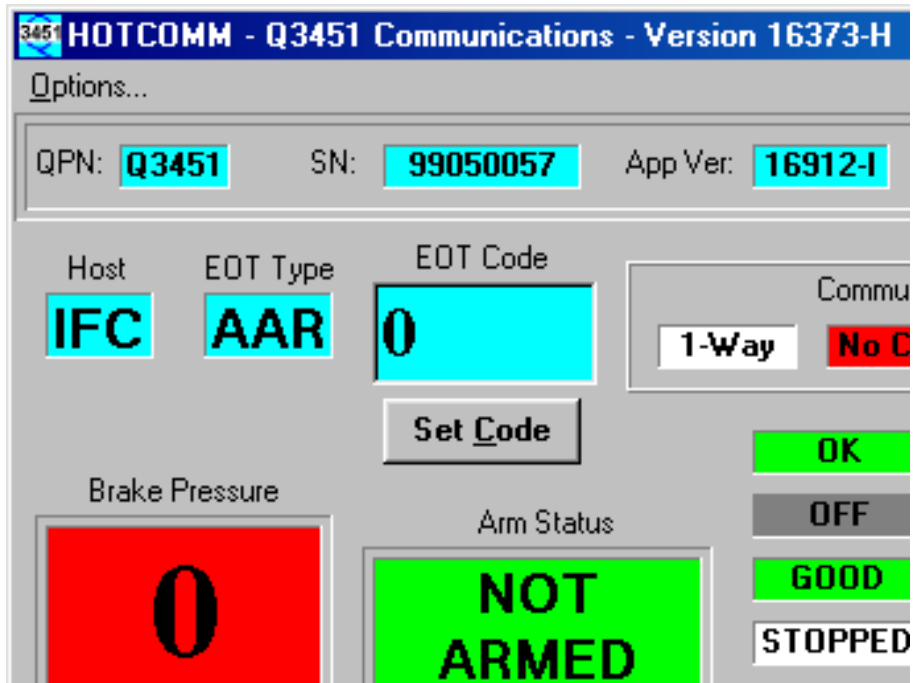

Figure 10 - HOTCOMM - Connected State
- Click the **RUN** button in the lower left of the screen to connect the HOTCOMM program to the unit under test. When the connection is made, HOTCOMM will display the Siemens part number (QPN), serial number (SN), Application Version (App Ver), and ROM version (ROM Ver) at the top of the window, similar to that shown in Figure 10. Verify that the application version is the current intended version. If a newer application is required, upload the new application as described in Appendix A.